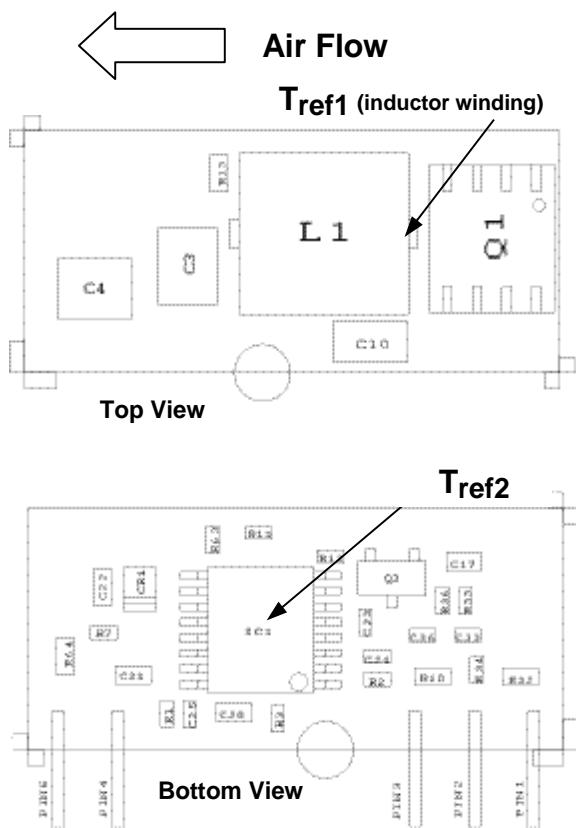
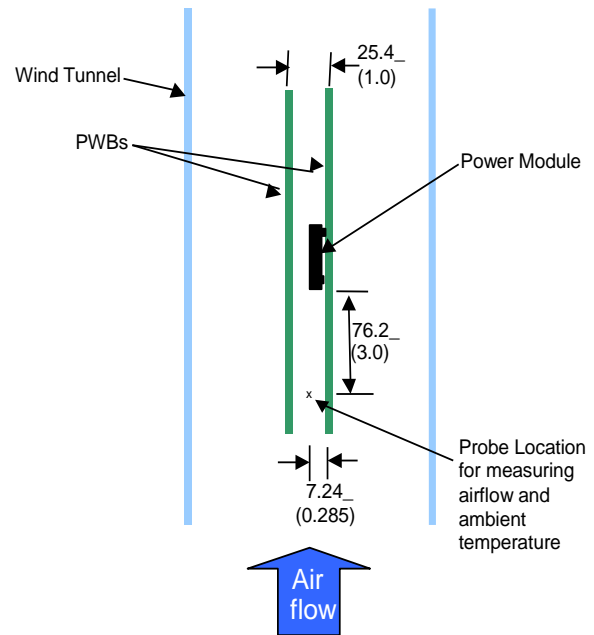

Figure 32. Tref Temperature measurement location.
Figure 33. Thermal Test Set-up.
To provide over temperature protection in a fault condition, the unit relies upon the thermal protection feature of the controller IC. The unit will shutdown if the thermal reference point T_{ref2} , (see Figure 33) exceeds $140^{\circ}C$ (typical), but the thermal shutdown is not intended as a guarantee that the unit will survive temperatures beyond its rating. The module will automatically restarts after it cools down.
Considerations include ambient temperature, airflow, module power dissipation, and the need for increased reliability. A reduction in the operating temperature of the module will result in an increase in reliability. The thermal data presented here is based on physical measurements taken in a wind tunnel. The test set-up is shown in Figure 33. Note that the airflow is parallel to the long axis of the module as shown in Figure 32. The derating data applies to airflow in either direction of the module's long axis.
The thermal reference point, T_{ref1} used in the specifications of thermal derating curves is shown in Figure 32. For reliable operation this temperature should not exceed 125°C.